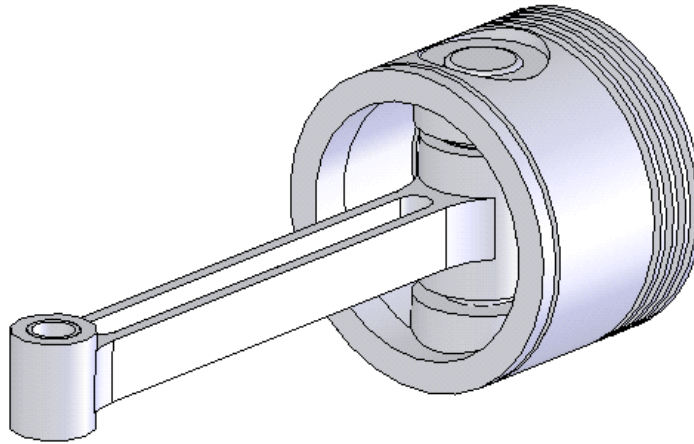

Figure 11-44 *Assembly of Articulated Rod, Piston, Piston Pin, Piston Pin Plug, Rod Bush Upper, and Rod Bush Lower*
3. Apply the required mates to assemble these components. The assembly after assembling the Articulated Rod, Piston, Piston Pin, Piston Pin Plug, Rod Bush Upper, and Rod Bush Lower is shown in Figure 11-44.